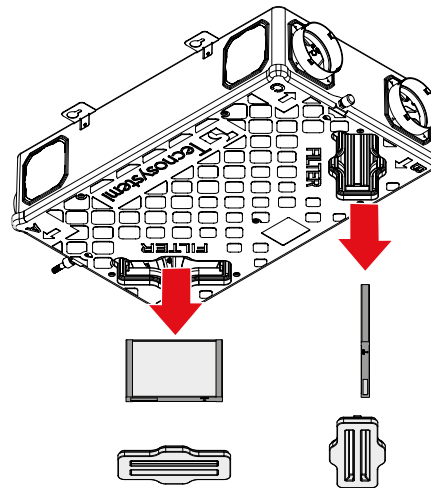

Fig. 2
2. Remove the filters (fig. 2).